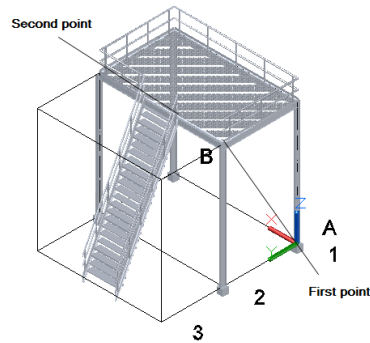
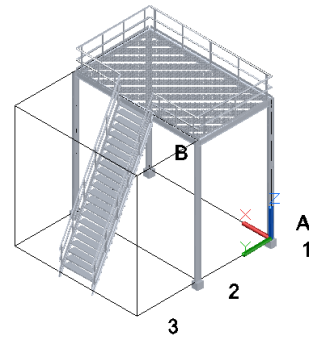

Figure 3-49 Points to be selected to create the railing
Figure 3-50 Model after adding the railing
- Invoke the **Railing** tool again and select the start and end points, as shown in Figure 3-49. The model after adding the railing is shown in the Figure 3-50.